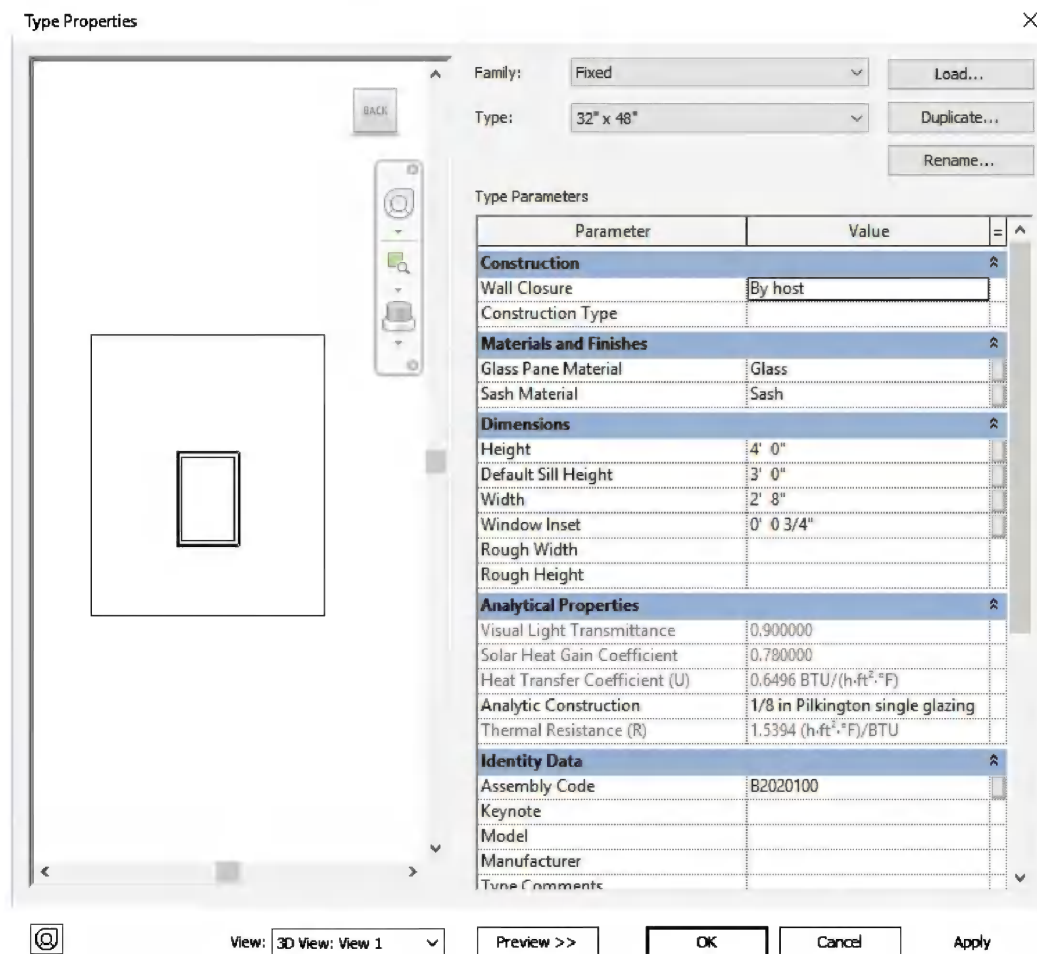

FIGURE 3-5.8 New window size with modified window sill height
15. Adjust the sill height for your new window size to fit within coursing as well. Set the sill height for Fixed: 32" x 48" to be **3'-4"** (Figure 3-5.8).